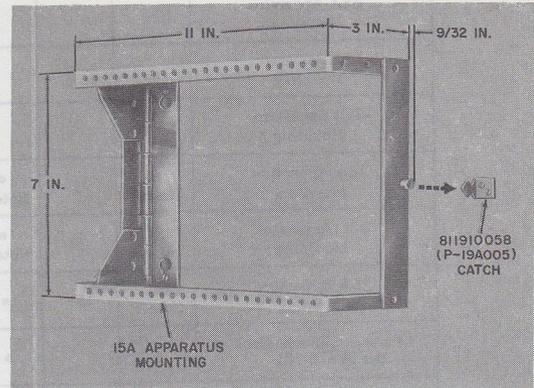

Fig. 3—15A Apparatus Mounting
3.01 The 15A apparatus mounting (Fig. 3) is a hinged metal framework primarily used to